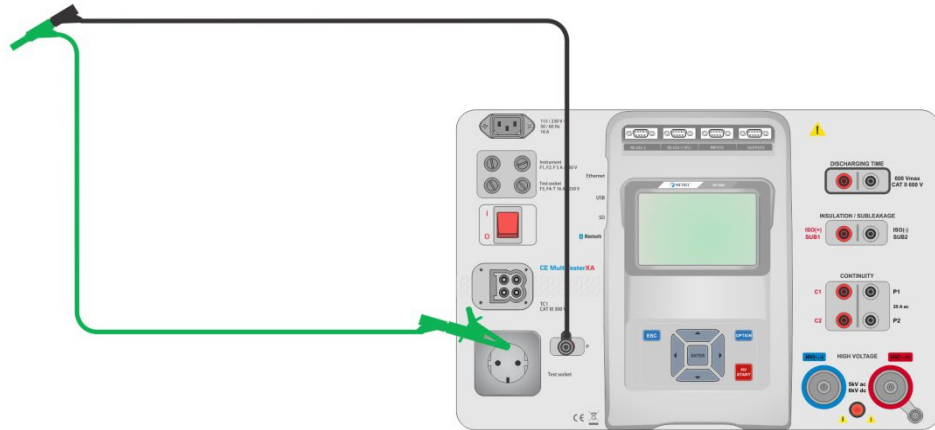

Figure 6.20: Shorted test leads
- ▶ Connect test leads to the instrument and short the test leads together, see Figure 6.20.